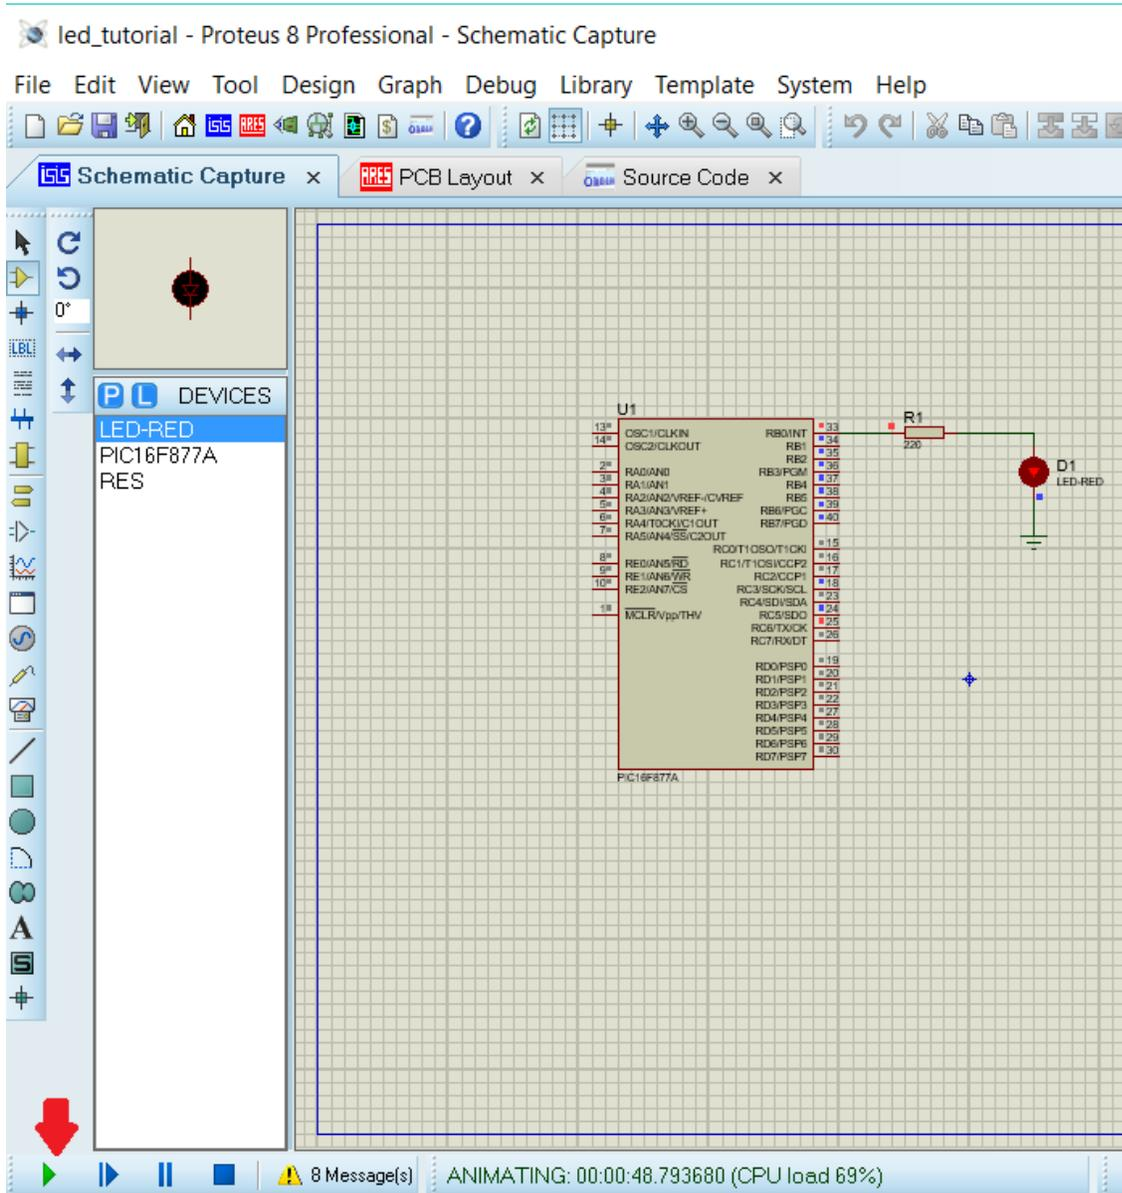

Figure-14
6) Program is set up on IC. Final step is to run the simulation. Click play button and see the result, **Figure-14**.